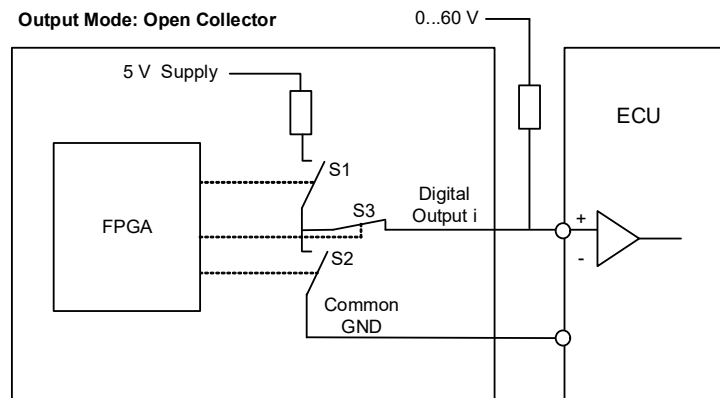

Fig. 23-34 Schematic Diagram for the Settings „Pull-Up to +5 V“ and “Open Collector” in the “Signals” Tab
A schematic diagram for a digital output is shown in Fig. 23-34.
- The pull-up resistor determines the voltage level of the signal. In the column "Output Mode" in the "Signals" tab, you can choose between an internal pull-up resistor ("Pull-Up to +5 V") and an external pull-up resistor ("Open Collector"), see Fig. 23-34.